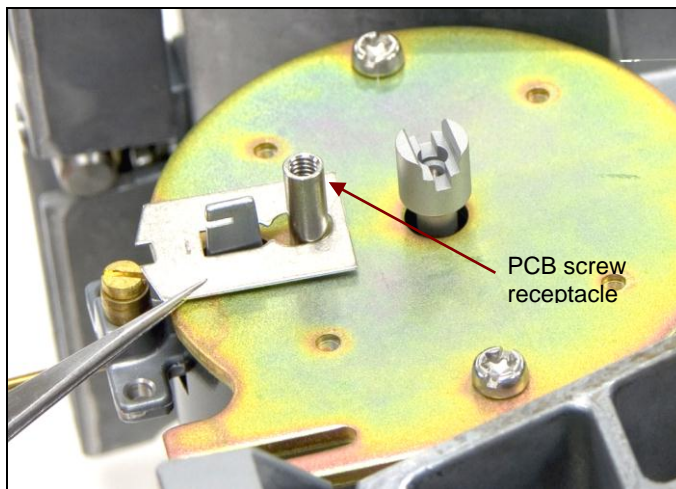

Figure 3-73. Up/Down Stop Plate inserted over Ratio Beam tab and PCB screw receptacle on Magnet Cover.
16. Place Load Cell PCB over screw receptacles on Magnet cover, and secure with 2 screws shown in Figure 3-73. Insert Step Bushing before screw on back end.
18. Install the bottom Flexure Arm, with Flexure screw heads facing *inward*, by inserting the 3 screws, as shown in Figure 3-73.